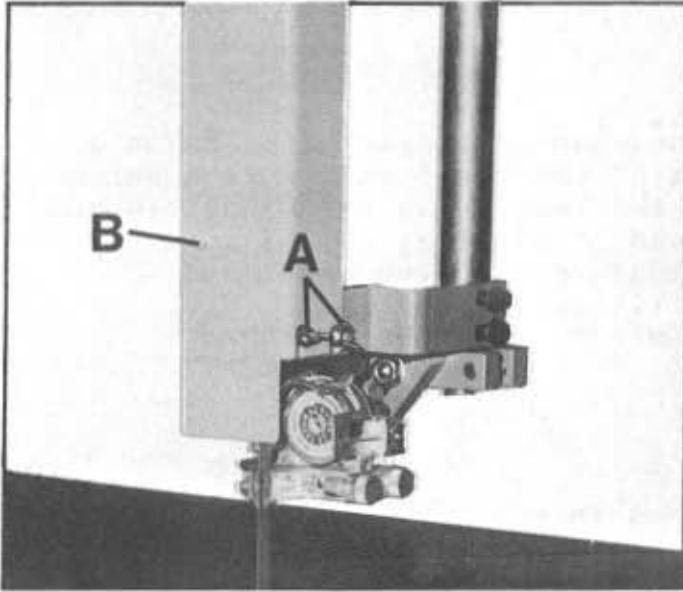

FIG 6
3. Loosen wingnut "A", FIG.6(C6) or knurled knob (C5) and remove sawguard "B".